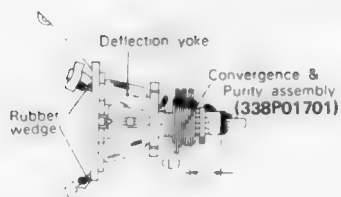

Figure 1
- (1) Remove the deflection yoke and the rubber wedges from the picture tube cone, taking care not to strike or scratch the cone surface.
- (2) Clean the remaining cement off the deflection yoke and the surface of the picture tube cone.
- (3) Put the deflection yoke on the neck of the picture tube, fully forward against the cone of the CRT.
- (4) Put the Convergence-Purity Assembly on the neck of the picture tube so that the distance between the 6-pole magnet and the base of the tube is 32 mm (1¼ inches), as shown in Figure 1, and hand-tighten the screw.
- (5) Demagnetize the front and sides of the picture tube with a degaussing coil.